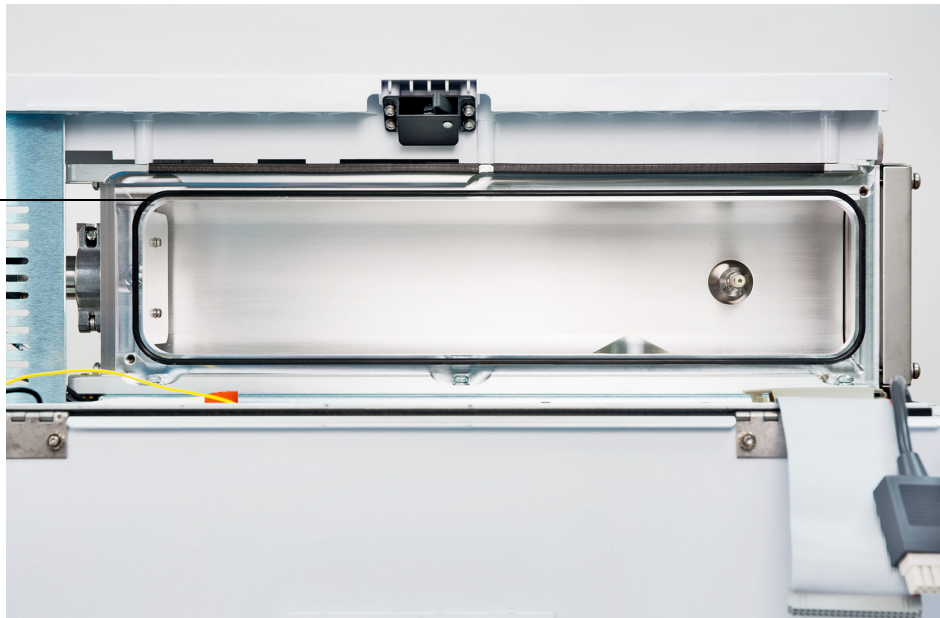

Figure 19. Side plate O-ring
- 3 Use a clean, lint-free cloth or glove to spread a *thin* coat of high vacuum grease only on the exposed surface of the O-ring. (See **Figure 19** on page 129.)